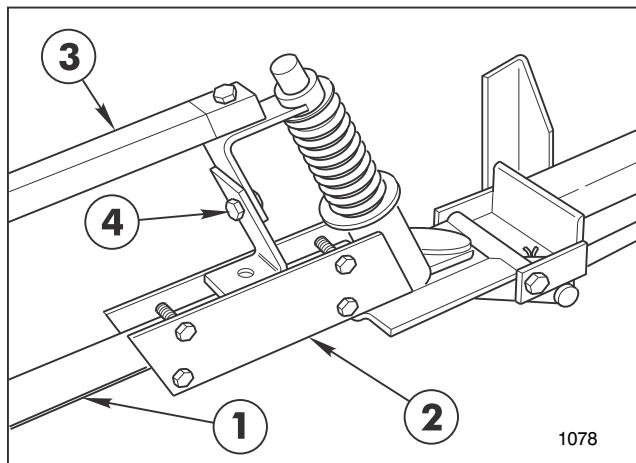

FIG. 15
13. Insert the plugged end of an Extension Boom Pipe into the Pivot Assembly and secure with four (4) 1/4" x 1-1/4" cap screws and lock nuts. See FIG. 15 Repeat on the opposite side to assemble the other Extension Boom.
14. Attach the L.H. Boom Support Assembly to the Pivot Assembly, using a 5/16" x 1-1/2" cap screw and lock nut. See FIG. 15 & 16.)